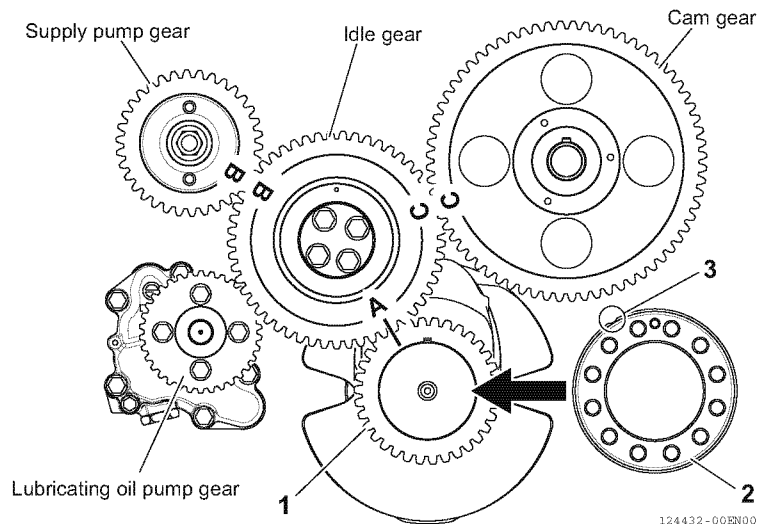
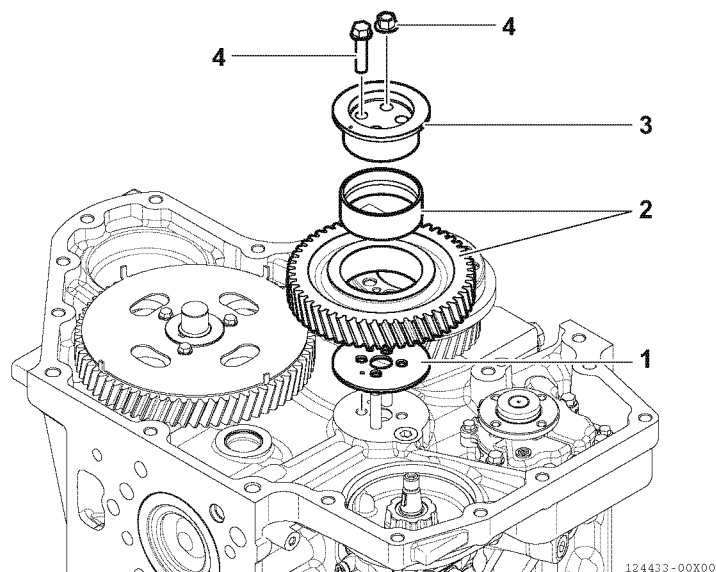

Fig.04-6
Fig.04-7
- 1 - Set the piston of the No. 1 cylinder to the top dead center. Timing mark A of the crank gear (1, Fig.04-6) comes to the position in Fig.04-6. However, there is no A mark graving on the crank gear. The notch part (3, Fig.04-6) of the shaft flange (2, Fig.04-6) in front of the crank gear equals to the A mark.
- 2 - Set the camshaft so that the timing mark C of the cam gear comes to the position shown in Fig.04-6, and attach the idle gear by matching the timing marks A and C of the idle gear to the matching side. In order, attach the idle shaft plate (1, Fig.04-7), the idle gear and the idle gear bush (2, Fig.04-7), and then the idle shaft (3, Fig.04-7). Then, tighten the idle gear bolts and nuts (4, Fig.04-7). Before attaching, apply clean engine lubricating oil to the idle gear, bush, and idle shaft.